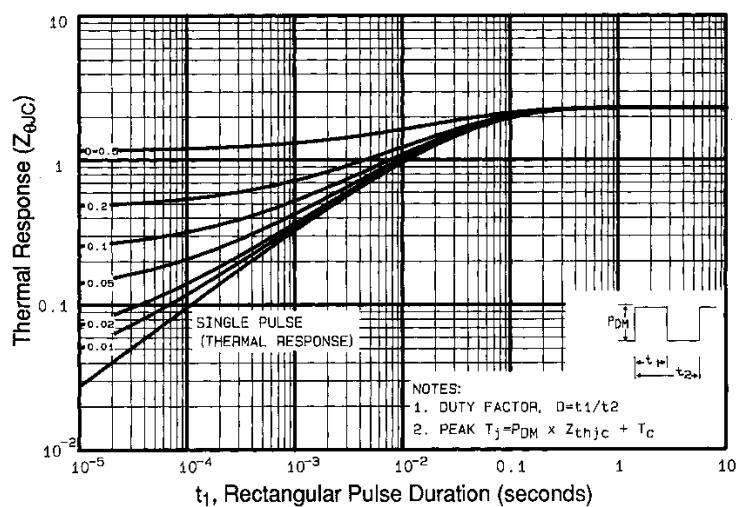

Fig 11. Maximum Effective Transient Thermal Impedance, Junction-to-Case
① Repetitive rating; pulse width limited by max. junction temperature. (See fig. 11)
④ Pulse width $\leq 300\mu\text{s}$; duty cycle $\leq 2\%$.
② $V_{DD} = 50V$, starting $T_J = 25^\circ\text{C}$, $L = 117\text{mH}$
$R_G = 25\Omega, I_{AS} = 1.7\text{A}$. (See Figure 11)